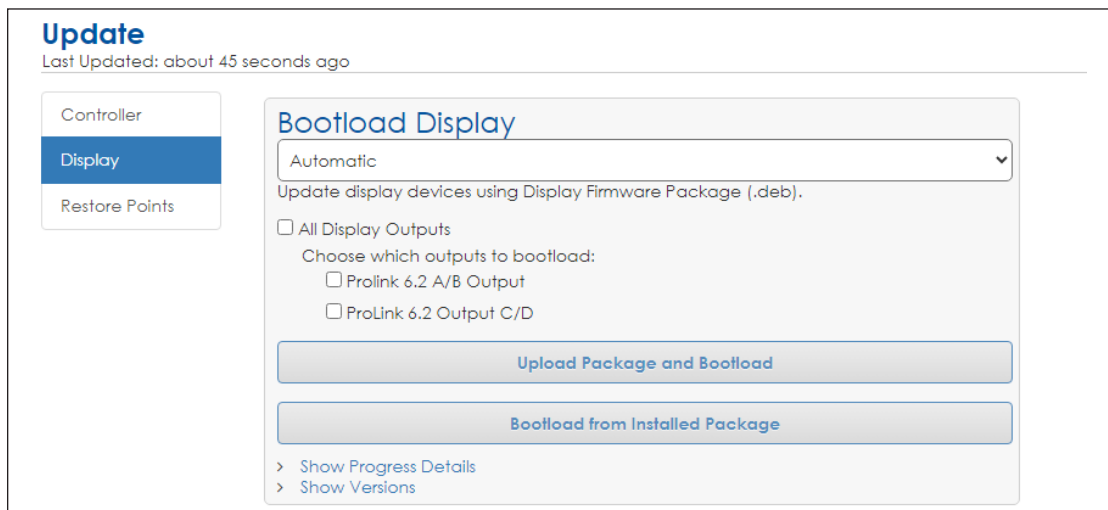
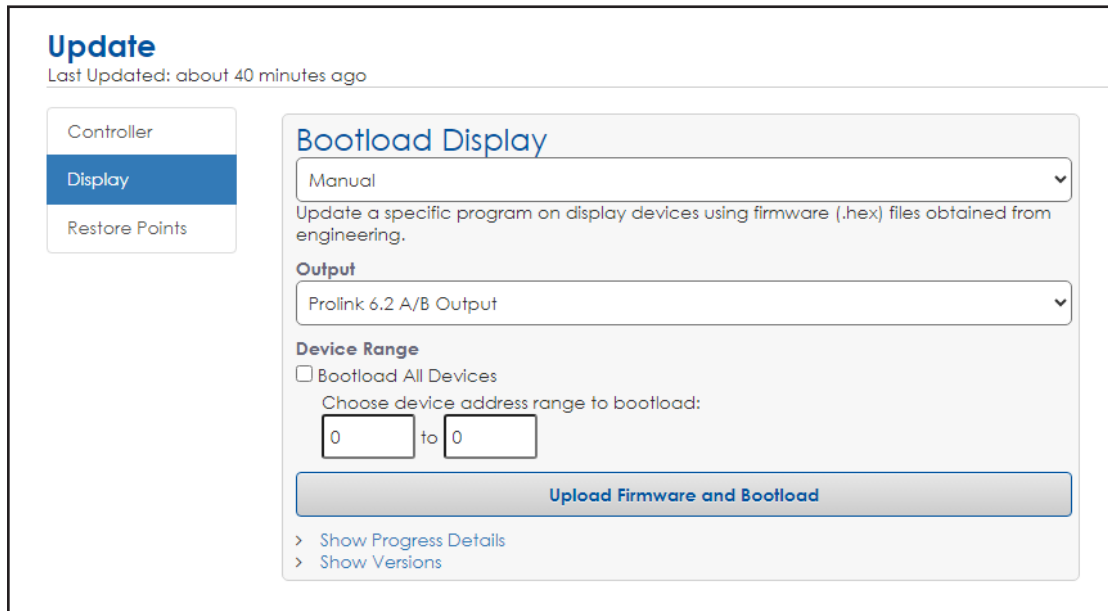

Figure 7: Bootload Display – Automatic
Figure 9: Bootload Display – Manual
Click **Display** to bootload the display devices. Choose **Automatic** or **Manual** from the drop-down list. Refer to **Figure 7** and **Figure 9**.
1. Choose **Automatic** from the drop-down list. Refer to **Figure 7**.
1. Choose **Manual** from the drop-down list. Refer to **Figure 9**.